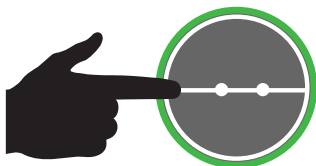

Figure 59. Main Circuit Breaker ON Button
8. Press the **Main Circuit Breaker ON button** (Figure 59).